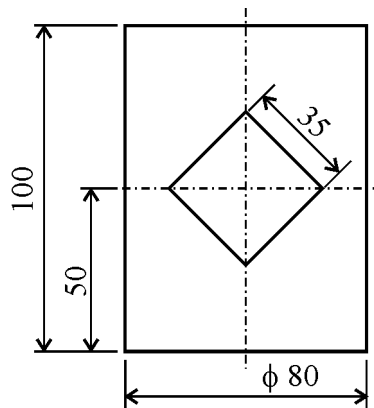

Fig. 3
- (a) Draw the development of the lateral surface of the cylinder having a square hole in it as shown in the Fig. 3.